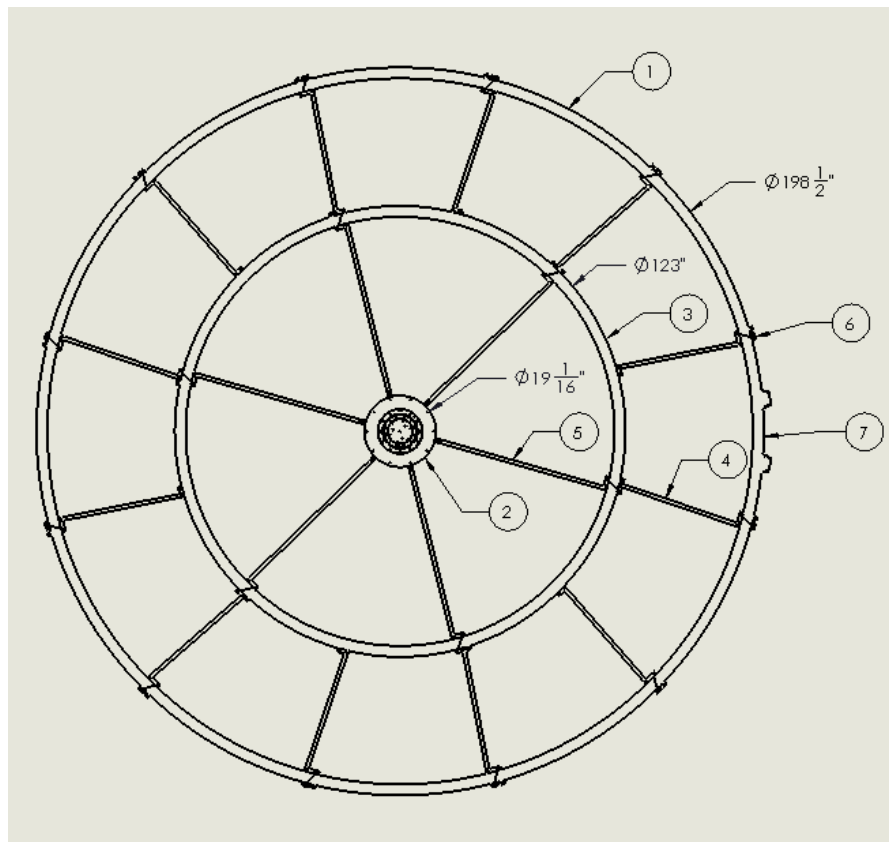

Figure 2: Track component layout (Refer to component tables for identification)
Step 2: At this time, the installer must locate the outer track motor location plate (Item 7) and place the part at the desired location keeping in mind where the motor/motor cover will be optimally placed. One thing to consider is where the vehicles will be shot for photography: locating the motor at 180 degrees from the camera location. Lay out the remaining parts in the orientation as shown in Figure 2 above. After all components are set in place, loosely fasten (**do not tighten**) the M8x16 screws with an M8 lock washer (H1, H2). Once the components in figure 2 are fully connected, tighten all the screws to 17 ft-lb.